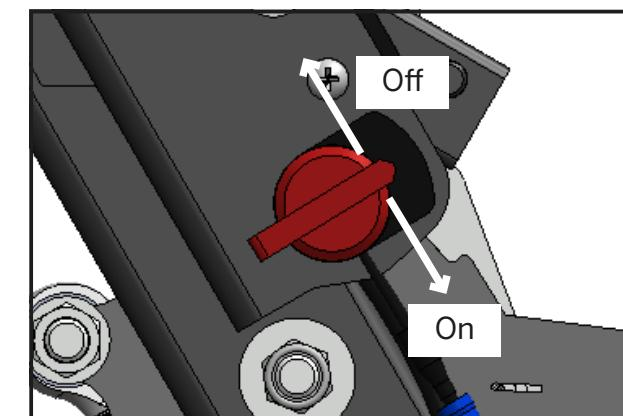

Figure 10.4.1
- Turn the engine switch located on the right-hand side of the steering column to the ON position (See figure 10.4.1).